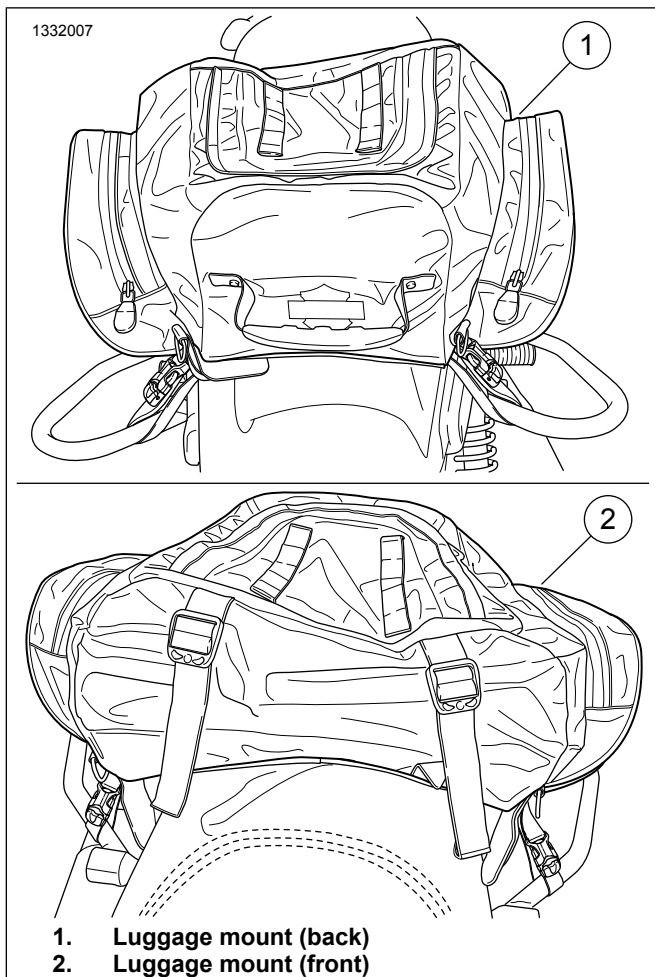

Figure 6. Tail Bag
- a. See Figure 6. Secure four straps with quick-release buckles to luggage rack, sissy bar or other vehicle structure.
1. See Figure 6. Position bag on pillion.